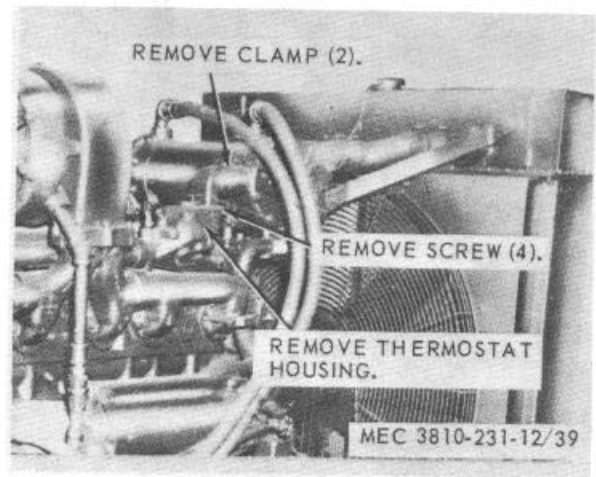

Figure 39. Thermostat housing and thermostat, removal and installation.
a. Removal. Remove thermostat housing and thermostat shown in figure 39.
- (1) Clean all parts with an approved cleaning solvent and dry thoroughly.
- (2) Clean gasket material from the thermostat housing and the cylinder head.
(3) Inspect for cracks, breaks, or other damage. Replace all damaged parts.
d. *Installation.* Refer to figure 39 and install the thermostat and thermostat housing.